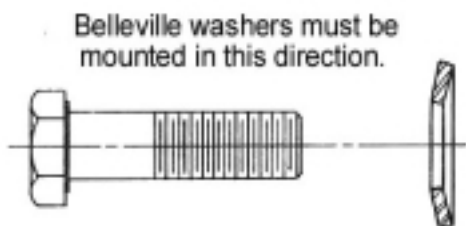

Figure 6-42
4. To reinstall, slide the fan on the shaft making sure the fan-mounting surface is toward the drive hub. Align reference marks (this is important for assembly balance) and mount the fan to the drive hub with the cap screws and Belleville washers. (Figure 6-42.) Torque the cap screws to 60 ft-lb. (81 N-m).